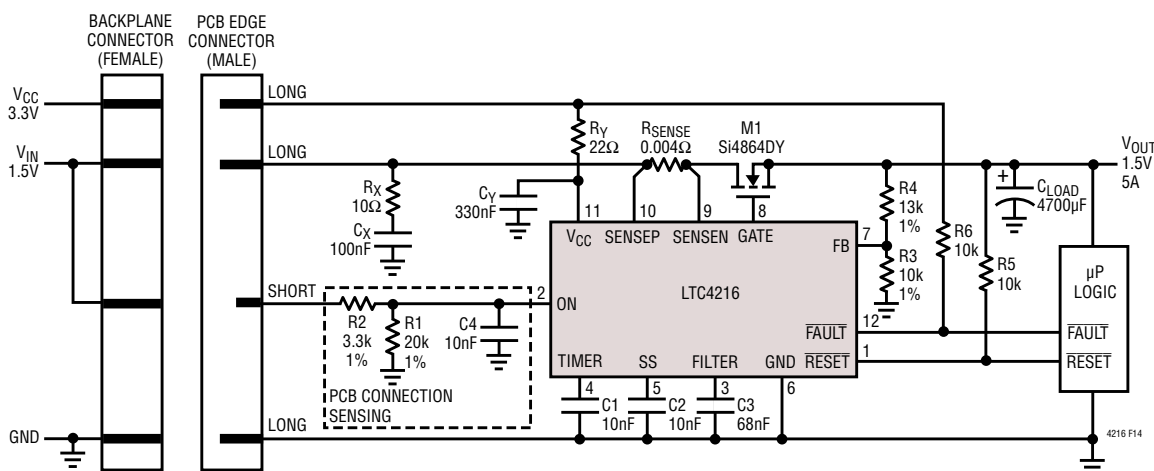

Figure 14. Single Channel 1.5V Hot Swap Controller
The LTC4216 can be used on either the backplane side of the connector or a printed circuit board, and examples for both are shown in Figure 14 and 15. Printed circuit board edge connectors with staggered pins are recommended as the insertion and removal of circuit boards will sequence the pin connections. Supplies (V_{CC} and SENSEP) and ground connections on the printed circuit board should be wired to the long pins or blades of the edge connector. Control signal (ON) and status signals ($\overline{RESET}$ and $\overline{FAULT}$) passing through the edge connector should be wired to short pins or blades.
An example is shown in Figure 14, in which the LTC4216 is mounted on the PCB and the R1/R2 resistive divider is connected to the ON pin. On the edge connector, R2 is wired to a short pin. Before the connectors are mated, the ON pin is held low by R1, keeping the LTC4216 in an off state. When the connectors are mated, the resistive divider is connected to the load supply (V_{IN}) and the ON pin voltage rises above 0.8V, turning the LTC4216 on.